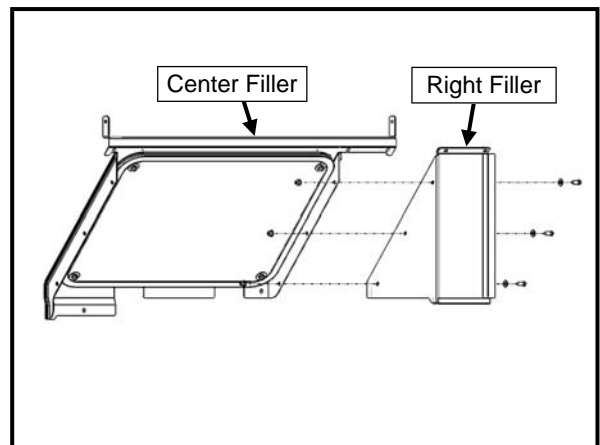

Figure 2.1: Rear Cab Panel Assembly, Right
- 2.1 Attach the right filler to the center filler with (3) 1/4-20 x 5/8" button head bolts, 1/4" steel washers, and 1/4" hex nuts (see Figure 2.1).